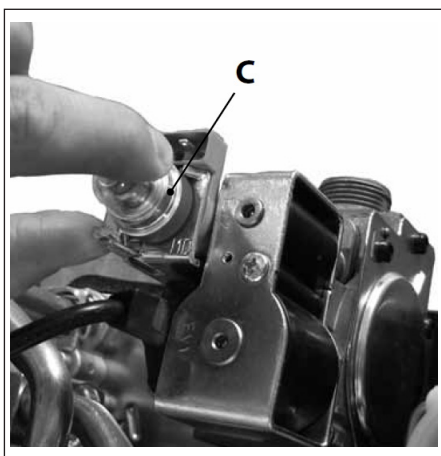

Fig. 24 Gas valve modulation coil
- Remove plastic cap **C** (see Fig. 24 Gas valve modulation coil ) at the top of the modulation coil, protecting the pressure regulator adjuster screws.